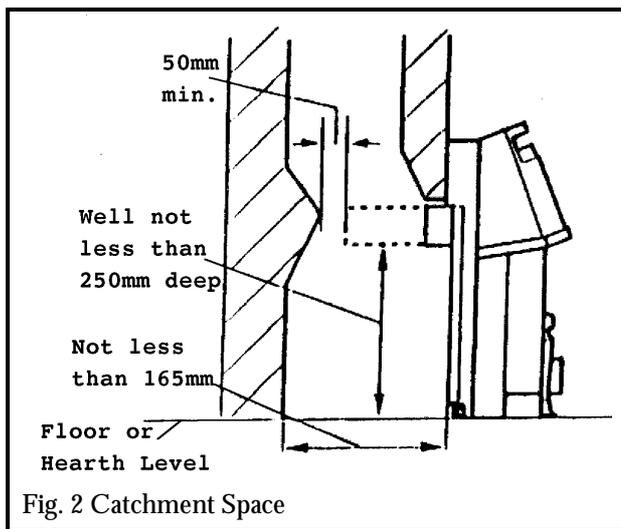

Fig. 2 Catchment Space
**2.10** The flue spigot and any spigot extension must be capable of passing through the closure plate by a least 25mm with a minimum clearance of 50mm between its open end and the nearest obstruction. There must also be a minimum clearance of 165mm between the back of the closure plate and the back of the catchment spare (Fig.2). The catchment space below the flue spigot must extend at least 250mm downwards measured from the bottom of the flue spigot (Fig.2).